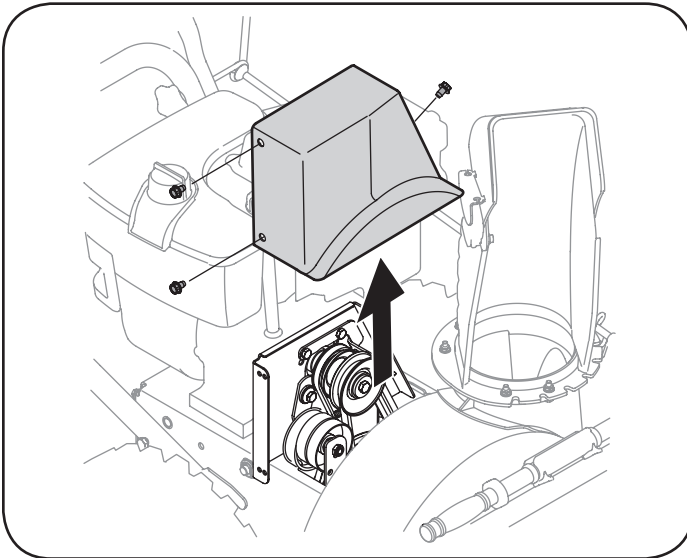

Figure 24
2. Remove the plastic belt cover, located near the engine, by removing the three self-tapping screws that secure it. See Figure 24.